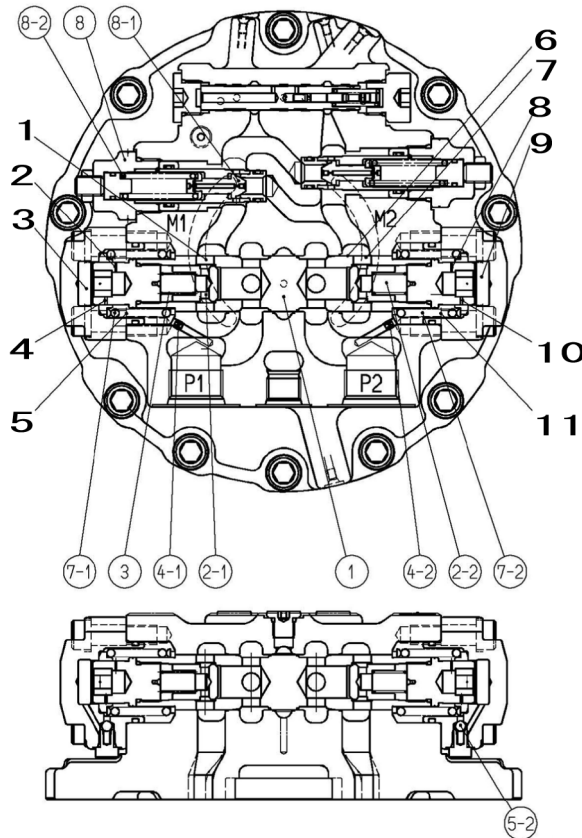

Figure 3 Double counter balance valve structural diagram (stopped state)
Figure 3 shows a structural diagram of the standard double counter balance valve.
A. Stopped state (Figure 3)